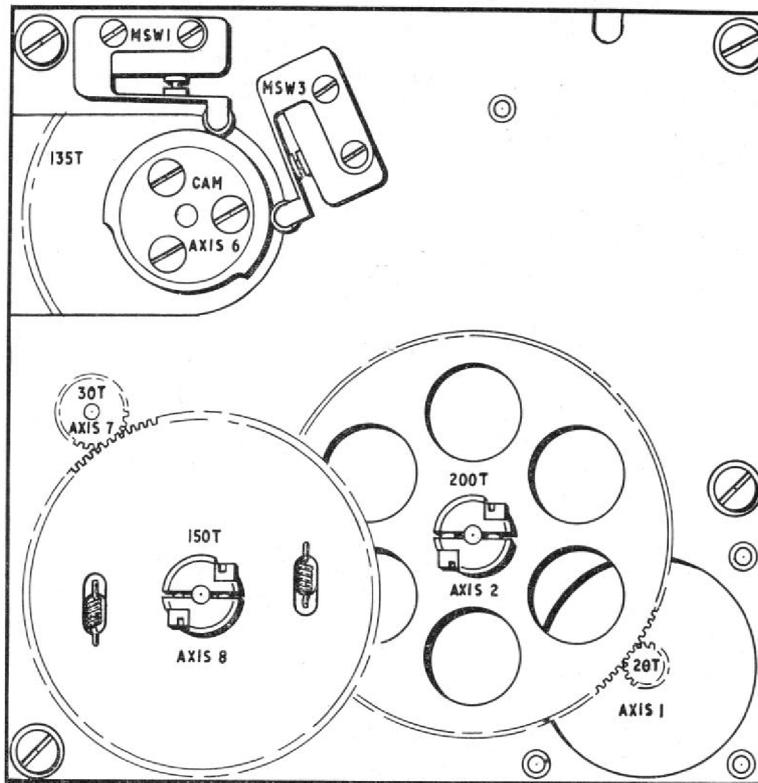
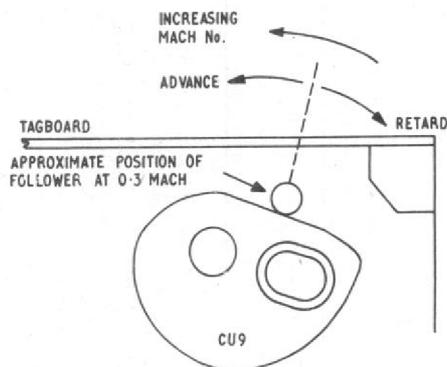
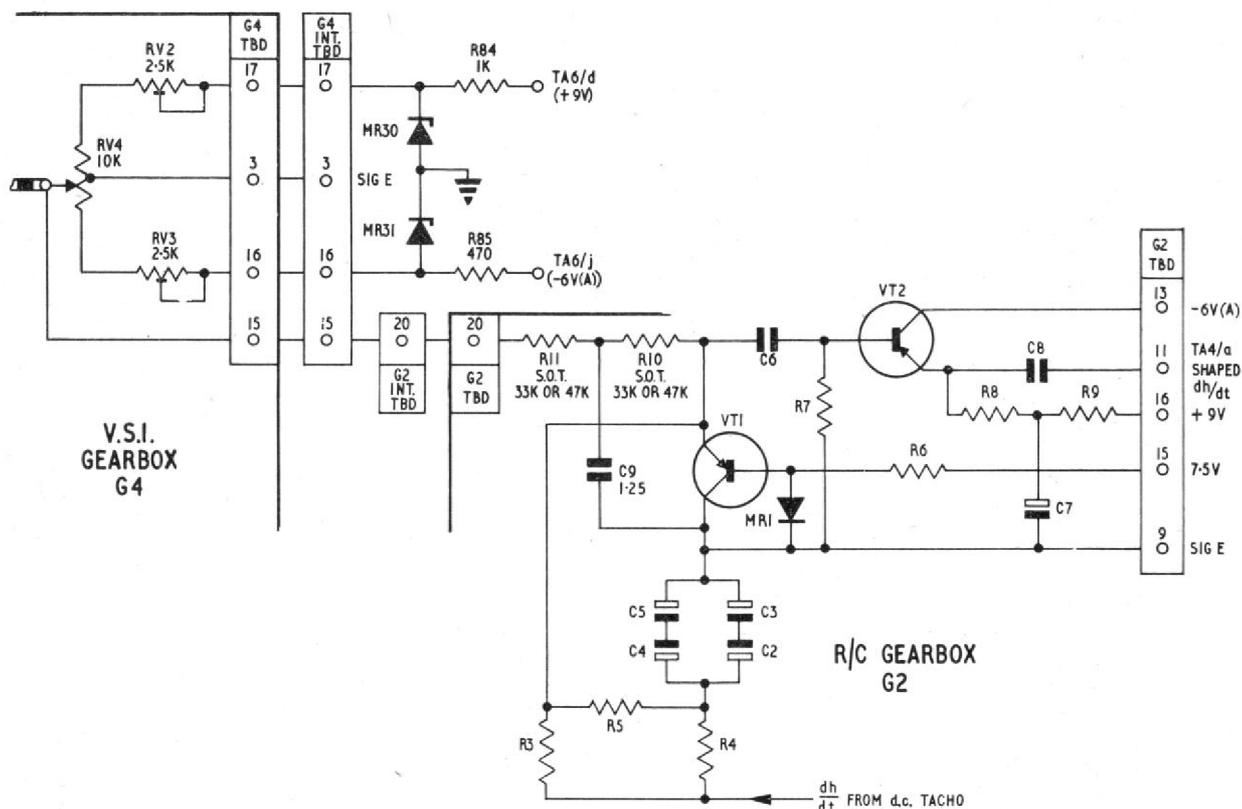

Fig. 5. Mach No. output gearbox (G5)—underside
Fig. 6. Adjustment of Mach No. output cam CU9
Fig. 10. Vertical speed position feedback circuit—post serial number 132/63
(Chap. 7, fig. 10, 11 and 12)
- (1) Check that the connections to potentiometer RV3 comply with the circuit diagram.
- (2) Connect a valve voltmeter between pin 15 of the log Mach No. gearbox tagboard and pin b on TA5; the valve voltmeter should indicate approximately 6.25V.
- (3) Connect the valve voltmeter between pin 13 of the gearbox tagboard and pin b on TA5; the valve voltmeter should vary between an indication of zero and approximately 20V as the servo runs.
- (4) If the check of sub-para. (3) fails then measure the voltage between pins 2 and 3 of RV3. This should be approximately 20V. Also measure the voltage between pin 1 (wiper) of RV3 and pin 3 of the gearbox tagboard. This should vary between zero and 20V as the servo runs.
39. Check that RV1 (Chap. 7, fig. 10) is so adjusted that when the 200T gear of axis 2 (fig. 5) is displaced one turn against the servo action it makes only one overshoot in each direction before becoming stationary.
40. Connect the valve voltmeter across C1, ensuring that the earth terminal of the meter is connected to the end of the capacitor further away from the motor-tachogenerator (Chap. 7, fig. 10).
is positioned approximately as shown in fig. 6. If positioned incorrectly release the clamping screws on RV3 (Chap. 7, fig. 10) and rotate RV3 until the follower takes up the correct position. Re-clamp the potentiometer and check the 20V balance.
46. Set S4, test set, Type 9B, to MACH NO. and check that the test set, Type 9B SERVO INDICATOR G1 reads 00000 ± 2 divisions; if G1 is out of tolerance release the clamping screws of CX1 (Chap. 7, fig. 10) and rotate the synchro until the G1 reading is within tolerance. Reclamp the synchro.
83. In computers of serial numbers 133/63 and above the rate of climb (UP) potential of +9V d.c. is obtained from TA6 pin d and the rate of dive (DOWN) potential of -6V d.c. is obtained from TA6 pin j (fig. 10).